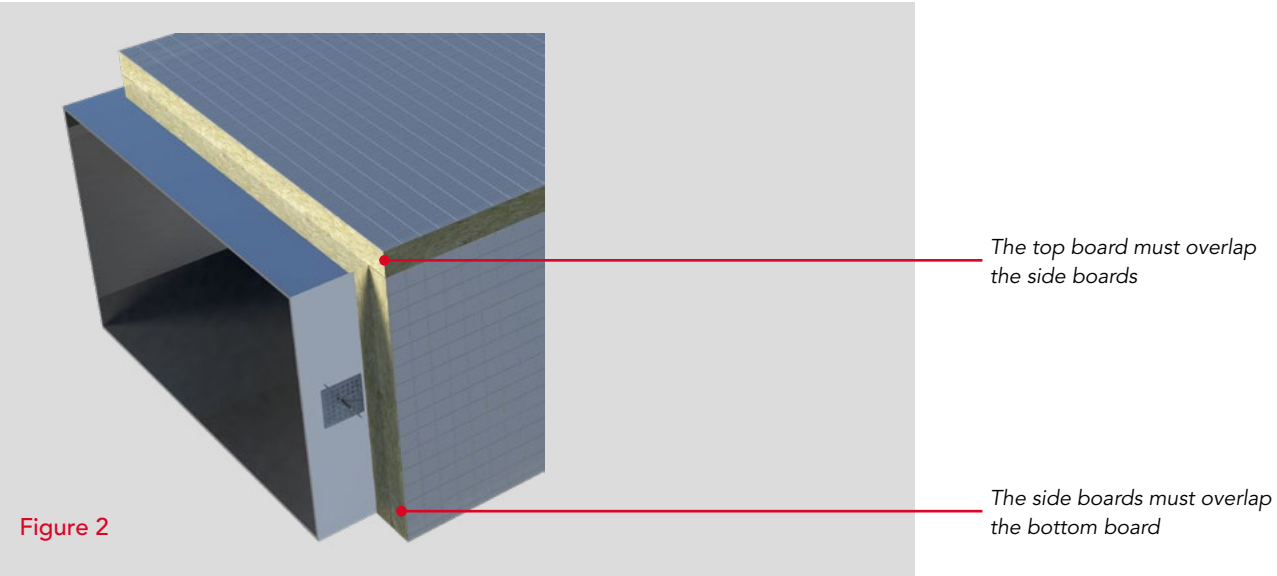

Figure 2
- When installing onto horizontal ductwork the side boards must overlap the base (bottom) board and the top board must overlap the side boards (Figure 2).